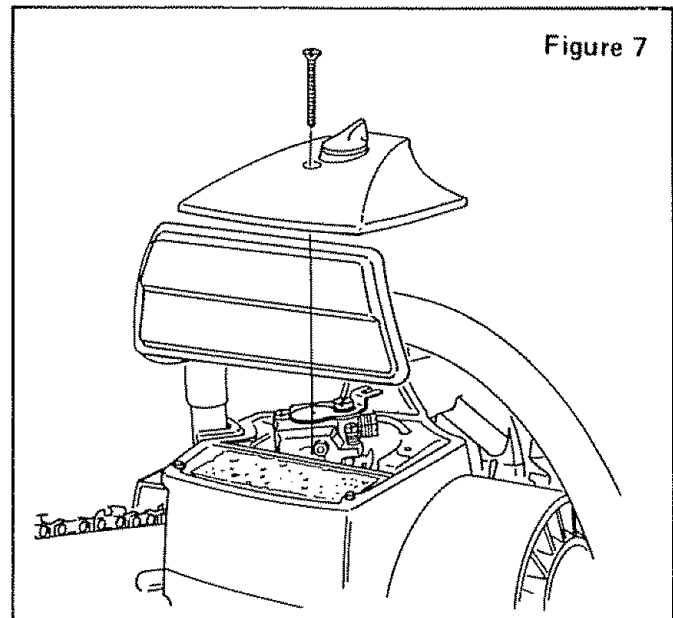
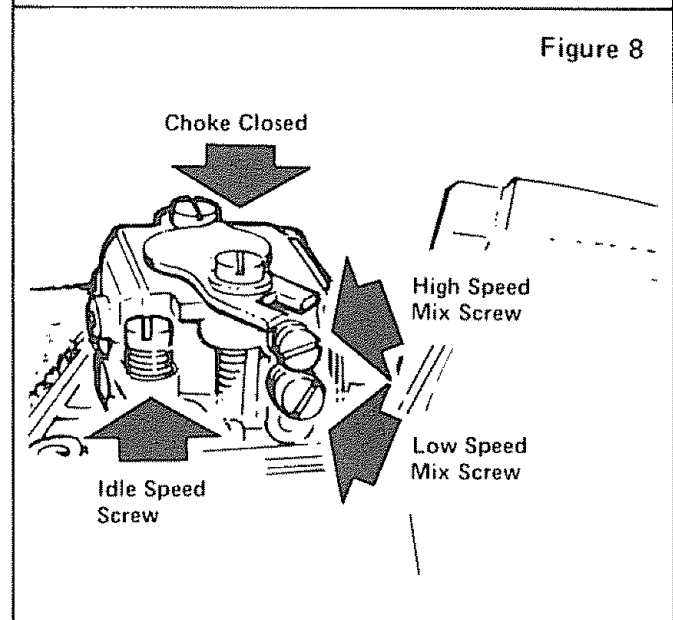

Figure 7
Figure 8
- 2 Remove the carburetor cover (Figure 7). Turn the high speed (Figure 8) and low speed mixture screws clockwise (Figure 8) until they stop. Don't tighten them, you may damage the needle seats!
- 3 Turn the high speed and low speed mixture screws one full turn counterclockwise (Figure 8).
- 4 Start the engine. If it stops, increase the idle speed (Figure 8) by turning the idle speed screw clockwise (Figure 8). Keep dirt and sawdust away from the carburetor while the cover is removed.
- 6 Set the idle speed as fast as possible without the chain moving. Turn the idle speed screw clockwise (Figure 8) for faster idle, counterclockwise (Figure 8) for slower idle.
- 7 Squeeze the trigger quickly. If the engine stops, restart it. The engine should accelerate without hesitating when the trigger is squeezed. If it does not, turn the low speed mixture screw counterclockwise (Figure 8) 1/16 of a turn and check the acceleration again. If the idle speed slows while adjusting the low speed mixture, reset the idle speed as in step 6. Continue step 7 until acceleration is smooth.
- 9 If the engine seems to smoke excessively in the cut, turn the high speed mixture screw clockwise (Figure 8) 1/16 of a turn. Repeat step 8 and 9, if necessary. **WARNING:** The high speed needle must never be less than 7/8 turn open. Too lean of a setting will quickly ruin the engine.
- 10 If the engine seems to weaken or lose power in the cut, turn the high speed mixture screw counterclockwise (Figure 8) 1/16 of a turn at a time until the saw cuts smoothly. The high speed mixture screw should not be open more than 1 1/4 turns (counterclockwise (Figure 8)) from the stopped position in step 2.
- 2 Move the choke shutter to the choke closed position (See Figure 8).